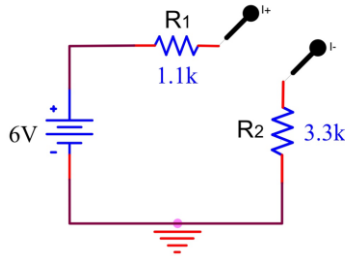

Figure 1.12
5. Turn off the power supply and break the connection between R_1 and R_2 to measure current (Figure 1.12). The positive lead of your DMM will be connected to R_1 and the negative lead will be connected to R_2 . Once the probe placement is correct turn on the power supply and record the measurement.